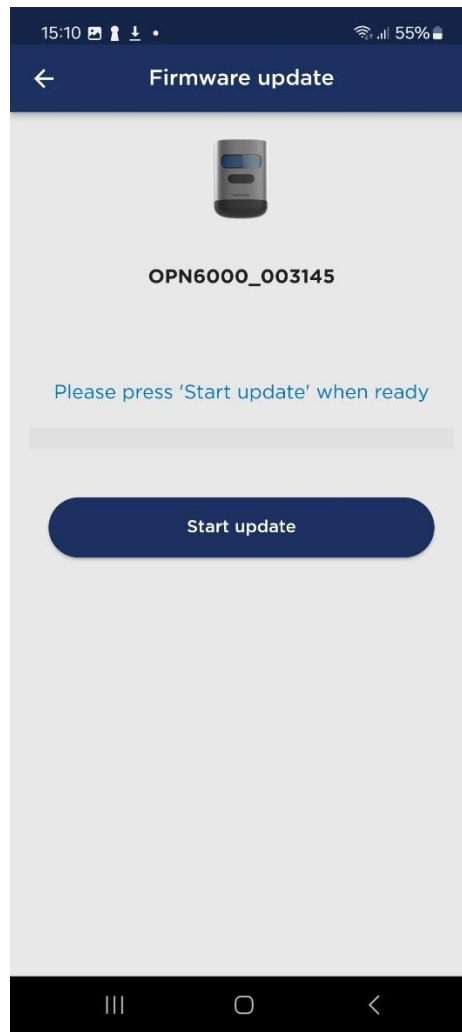

Figure 11-3: The *Firmware update* page. To begin the update, press the *Start update* button.
- The *Firmware update* page will guide you through the update. Press the *Start update* button when ready (see Figure 11-3).